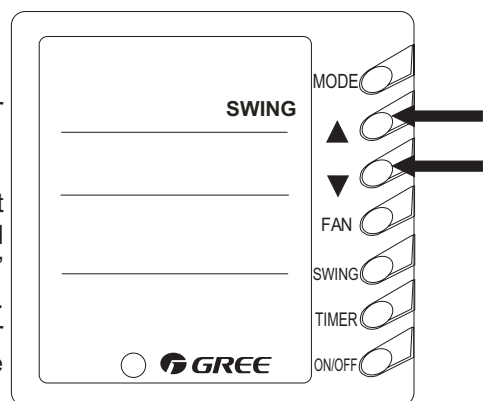

Fig. 4
3) Temperature adjustment(Fig.4)